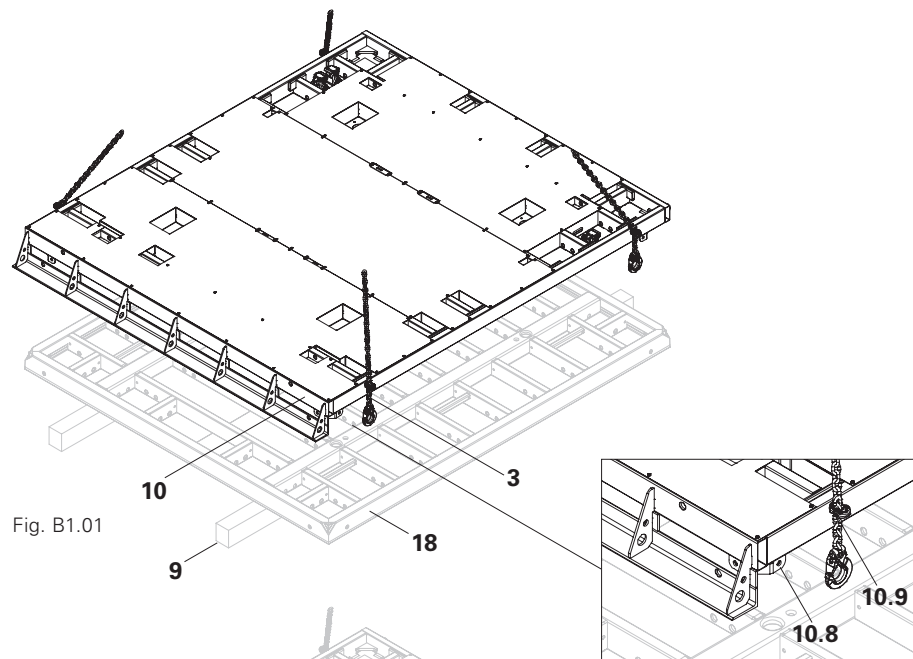

Fig. B1.01
1. Lay out timber (9) or planking as a base. The assembly area must be even.
2. Place Panel MX (18) with formlining facing downwards on the supports.
3. Attach the Heated Panel MXH (10) with the Lifting Gear Combi MX (3) to the transport openings (10.9) and then place this on the Panel MX using the crane. (Fig. B1.01)